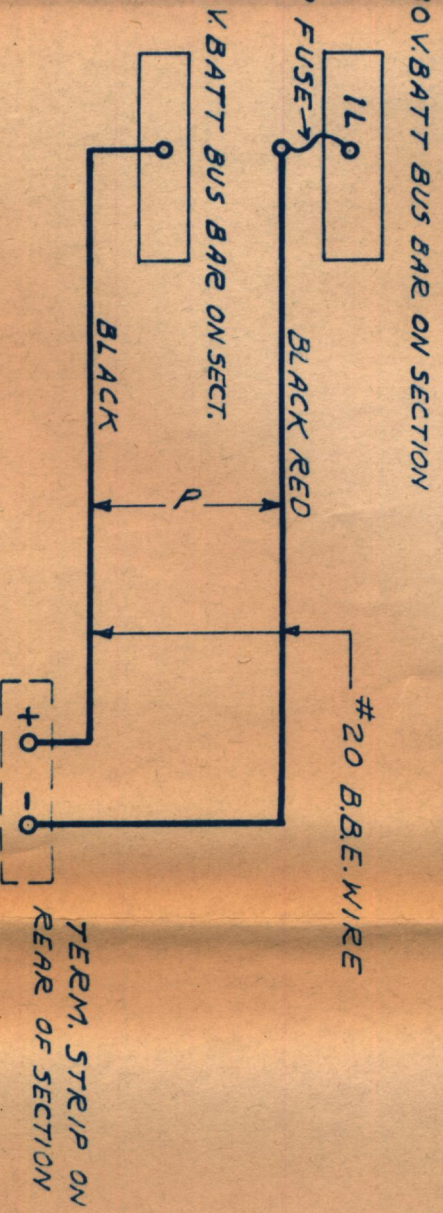

FIG. 6
- LB Lamp battery circuit, Dwg. SC-D-1172, Fig.6